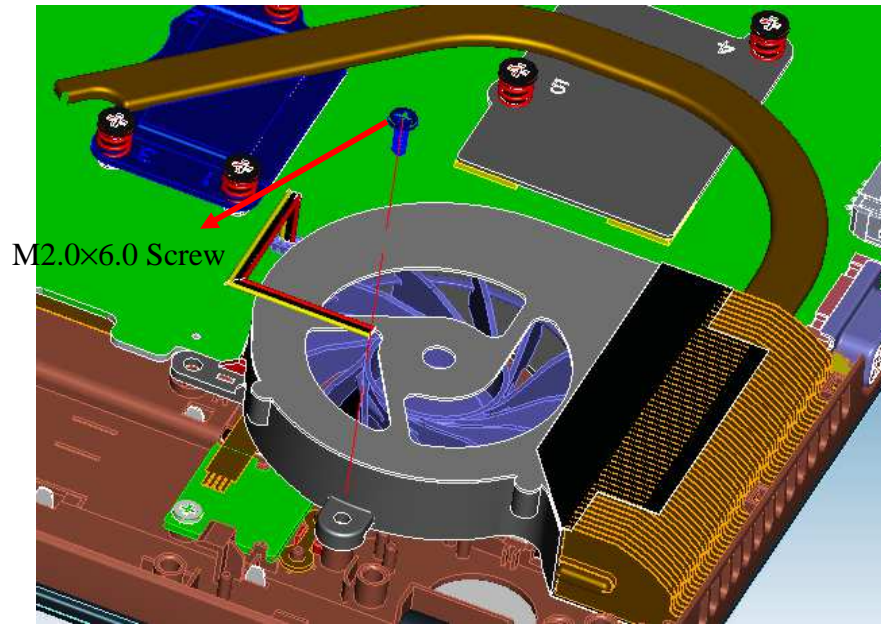

Figure 4-9-2 Release the screw on thermal module
3. Release the following screw securing the thermal module. (See Figure 4-9-2)